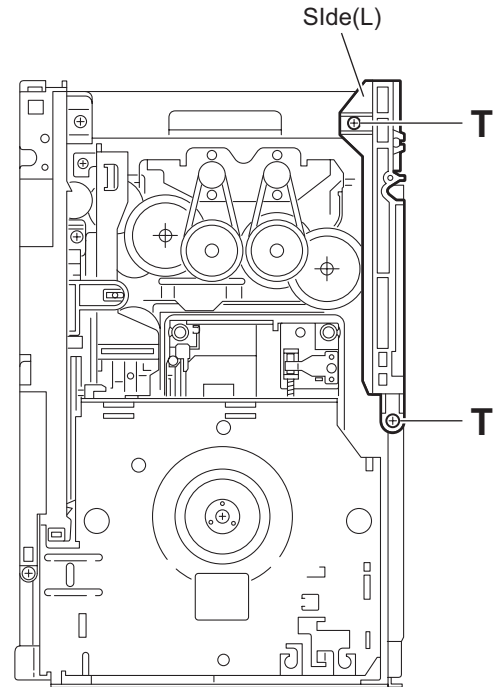

Fig.19
3.2.11 Removing the side (L) assembly and tray switch board (See Figs.19 to 21)
- (1) From the topside of the DVD changer mechanism assembly, remove the two screws **T** attaching the side (L). (See Fig.19.)